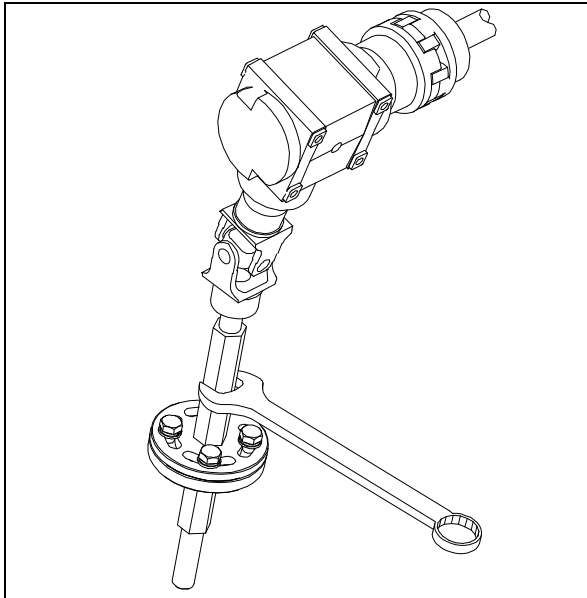

FIGURE 23 : SLIDE-OUT ADJUSTABLE SHAFT ASSEMBLY
2. Make sure the adjustable shaft assembly is tightened (refer to figure 23).
7. Operate the slide-out and check if the exterior panels of the slide-out are parallel with the vehicle panels. If not, rotate the upper part of the adjustable shaft assembly as required to obtain proper alignment (refer to figure 23).